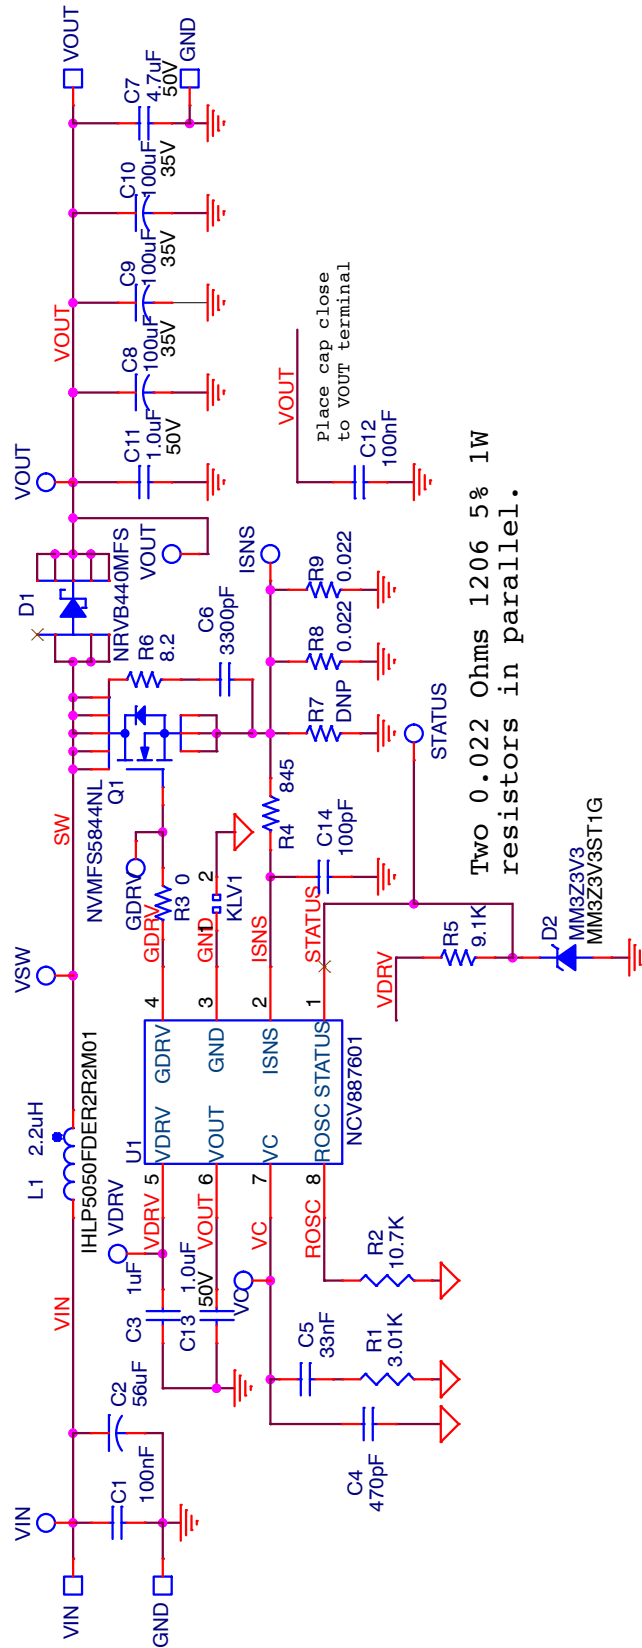

Figure 4. NCV887601 Boost 6.8 V / 3.6 A Evaluation Board Schematic
1. The IC UVLO (undervoltage lockout) is 4.0 V for VOUT rising, 3.6 V for VOUT falling (0.4 V hysteresis). The STATUS pin is powered by the IC VDRV pin on the demo board (details available from the Figure 4 schematic) to eliminate leakage current during normal battery operation. The STATUS pin has a high impedance state when in sleep-mode. STATUS pin is in a low impedance state only when the IC is awake (VOUT decreasing is below 7.3 V) and not in UVLO.